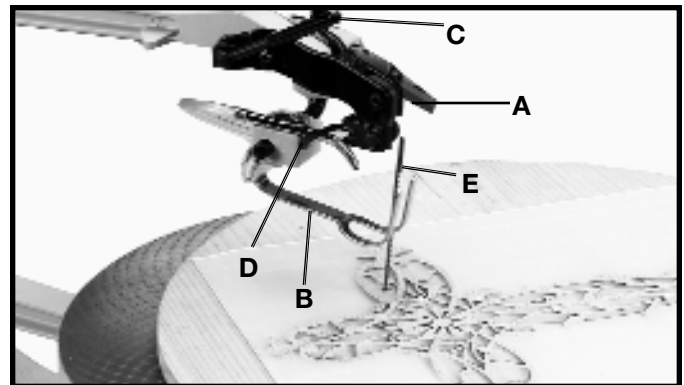

Fig. 37
Loosen lock handle (A) Fig. 37, and raise the spring holddown (B). Release blade tension by moving tension lever (C) forward and loosen upper blade holder by moving lever (D) to the rear as shown. This will release the blade (E). Insert the blade (E) into the next hole in the pattern, as shown.